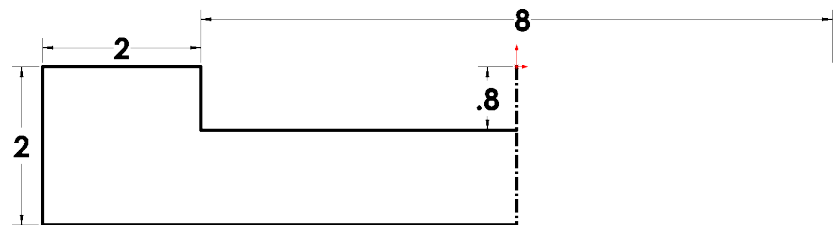

Fig. 4
Step 8. Add dimensions, **Fig. 4**. Double distance dimension across horizontal line. To double distance dimension, click the vertical line and then the centerline, move the cursor to right side of the centerline and click. Key-in 8 and press ENTER.